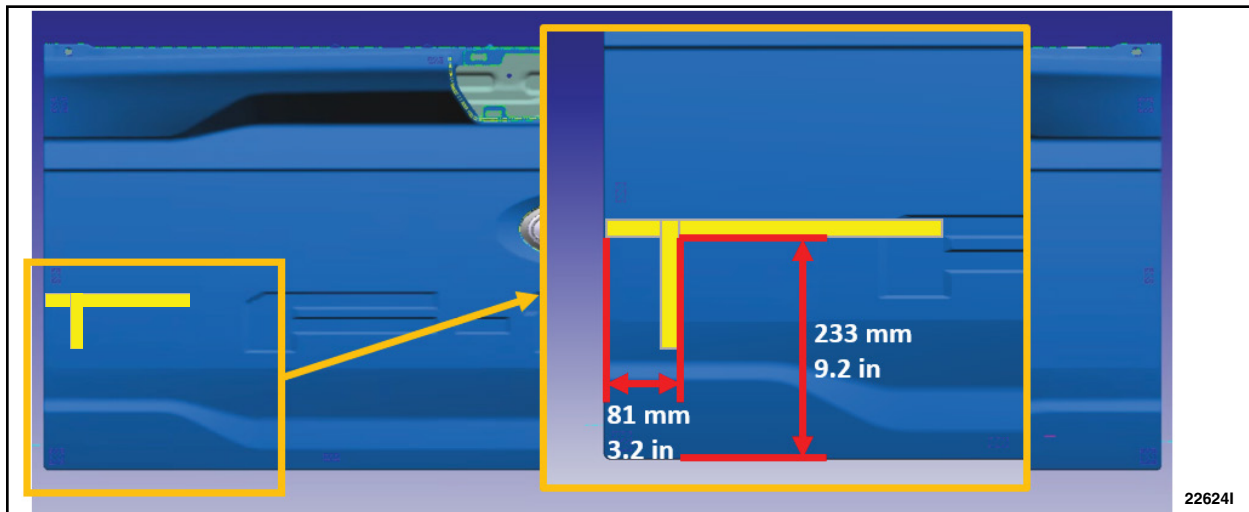

FIGURE 12
48. Measure and apply locating masking tape to the tailgate outer panel. See Figure 12.